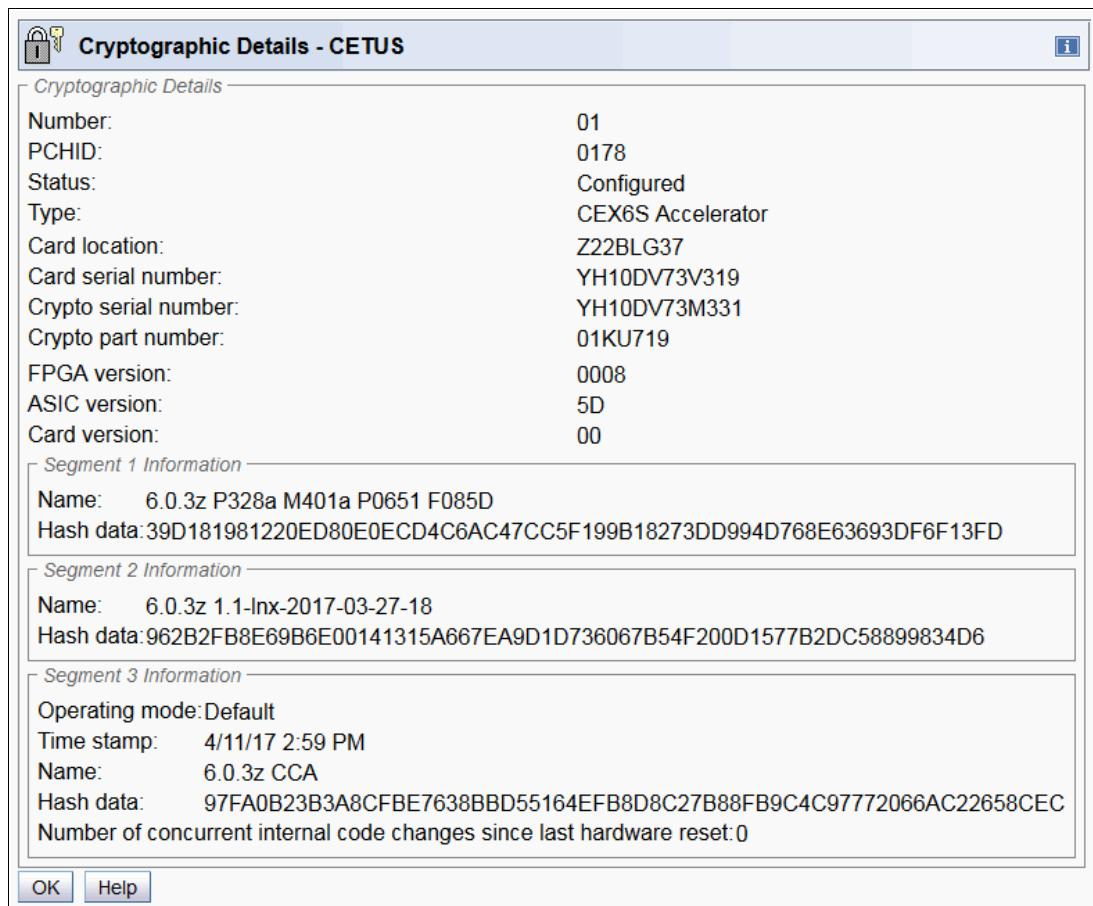

Figure 10-15 Cryptographic Details (Accelerator)
8. Click **View Details** for detailed information (Figure 10-15).